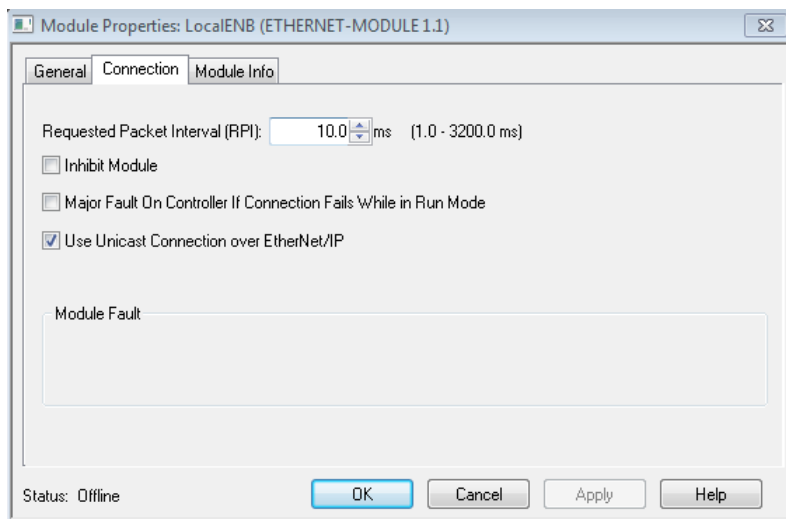

Figure 5-4: Setting Module RPI
5. The “New Module” window now appears as a “Module Properties: LocalENB” window with the Connection tab selected. Set the “Requested Packet Interval (RPI)” value to 20.0 ms (this can be reduced to 10.0ms when not using Workbench in combination with EtherNet/IP). If using firmware version 1.8 or higher, check the box “Use Unicast Connection over EtherNet/IP” if the option is available. For older versions of firmware leave this box unchecked. Click OK. (Figure 5-4: Setting Module RPI).